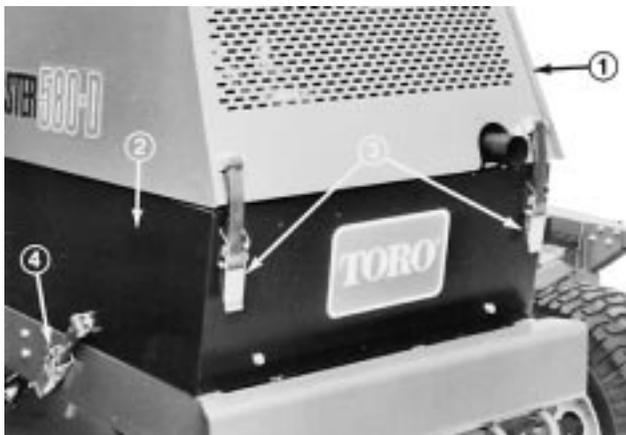

Figure 32
1. Unlatch and raise hood and prop it open. Unlatch and remove left side panel (Fig. 32). Make sure hood prop is secured in one of the mounting brackets on hood.
1. Unlatch and raise hood and prop it open (Fig. 32). Make sure hood prop is secured in one of the mounting brackets on hood. Unlatch and remove both side panels (Fig. 32).